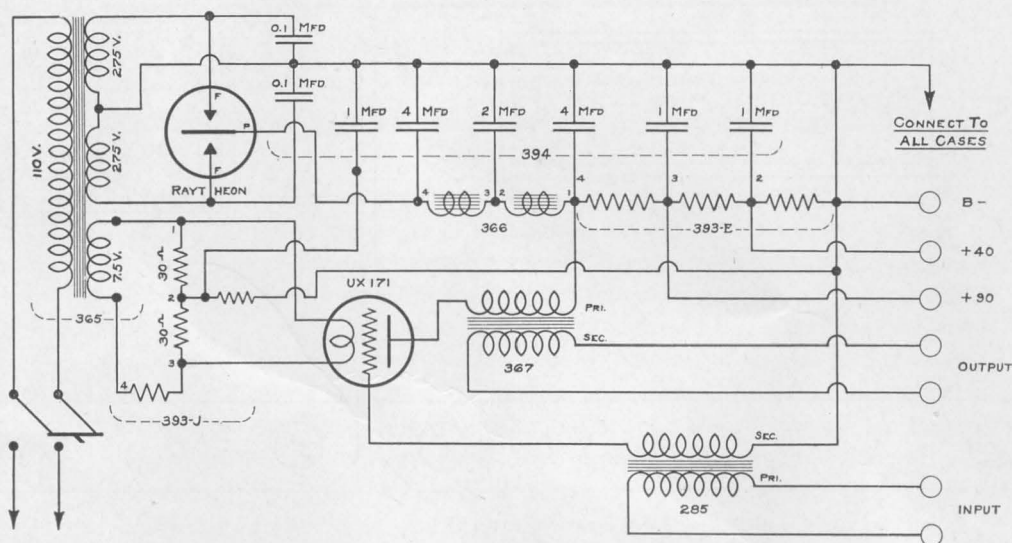
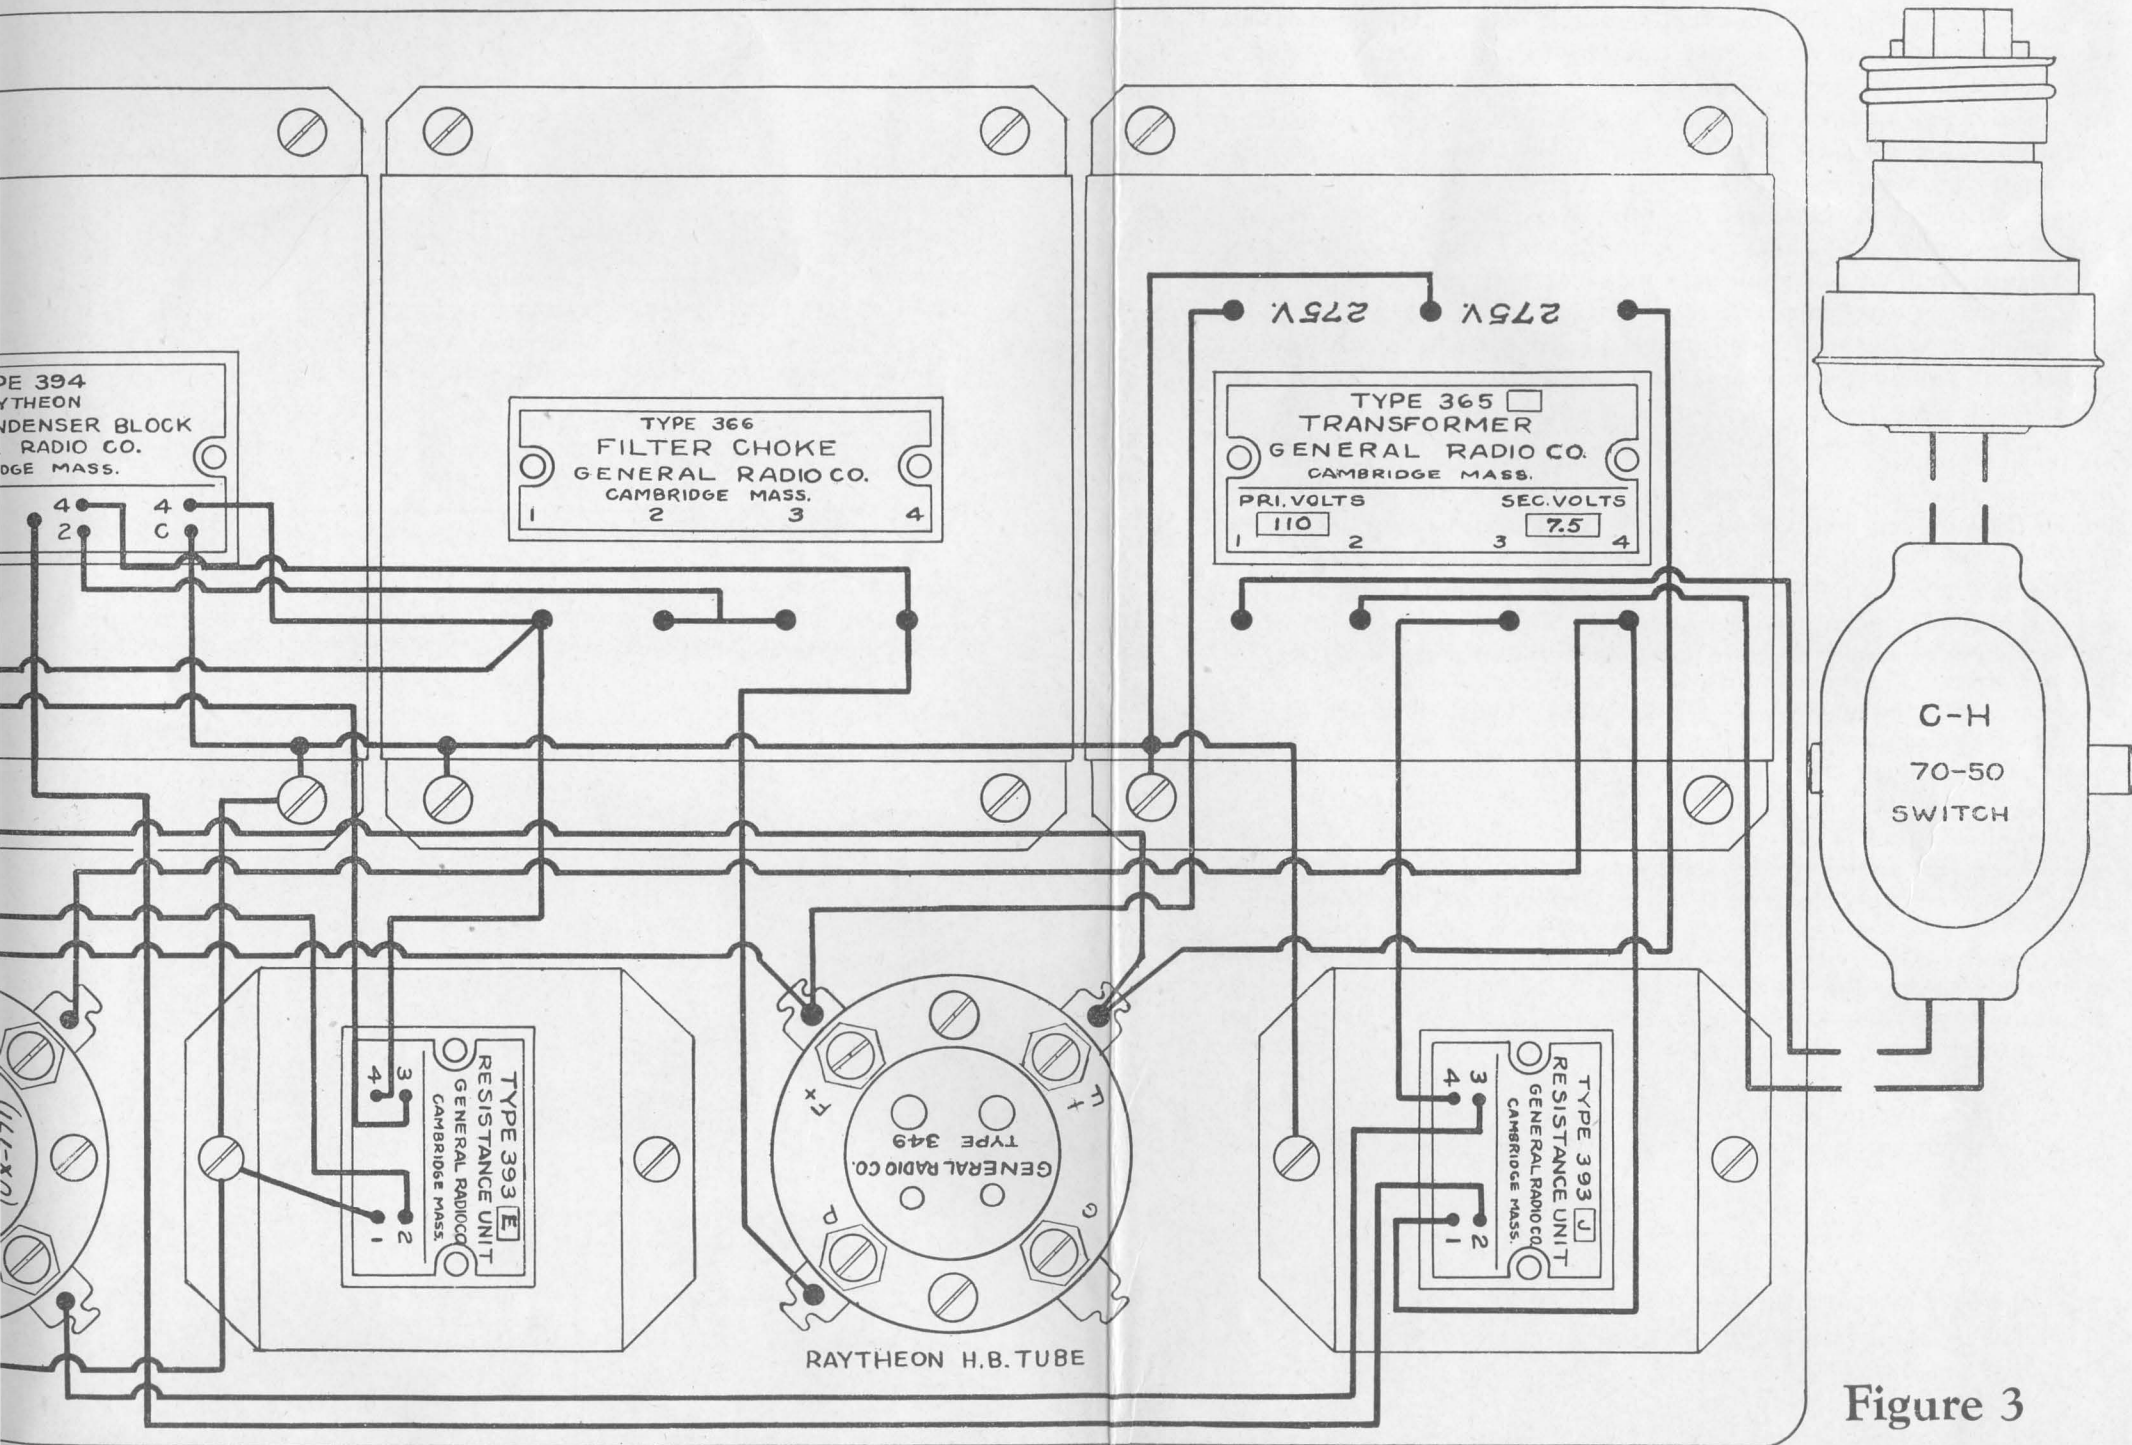

Figure 2
Figure 3
Figure 2 shows the schematic wiring diagram and Figure 3 illustrates the actual arrangement of parts and the interconnecting wires. A large part of the wiring is done under the panel which is drilled to accommodate the various wires. It is best to have this under-panel wiring run in straight lines, point to point, so that the wire may be pulled taut and be free from sagging. For convenience the terminals of the condenser block and the two resistance units are brought out in the form of flexible leads. Care should be taken in soldering the various joints to obtain firm and clean junctions, avoiding excess of soldering paste.
1. Mount all parts on the panel in exactly the arrangement shown in Figure 3. The three large cases are mounted with four through machine screws, each having a nut and washer underneath the panel. Each of the four small cases is mounted with one through machine screw and one wood screw. The two sockets and the terminal panel are mounted with wood screws, metal spacers being used to raise the latter above the panel. The socket between the resistance units is to hold the Type HB Raytheon Tube; the UX 171 amplifier tube being placed in the socket adjacent to the Type 285 Transformer.
2. By means of a continuous bare wire run under the panel join, with soldered connections, one screw of each of the seven cases of items 2 to 8 (inclusive) above, and bring this wire to the B— terminal post.